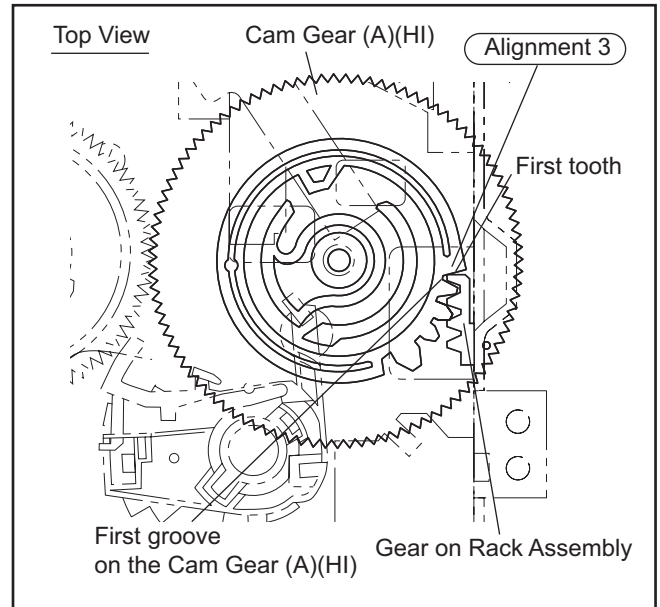

Fig.3
Install the Rack Assembly so that the first tooth on the gear of the Rack Assembly meets the first groove on the Cam Gear (A) (HI) as shown in Fig. 3.